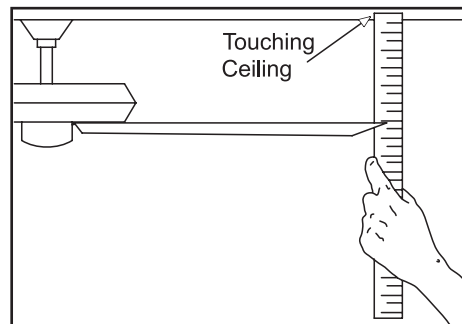

Figure 13
2. Most fan wobble problems are caused when blade levels are unequal. Check this level by selecting a point on the ceiling above the tip of one of the blades. Measure from a point on the center of each blade to the point on the ceiling. Measure this distance as shown in Figure 13. Rotate the fan until the next blade is positioned for measurement. Repeat for each blade. Measurement deviations should be within 1/8". Run the fan for 10 minutes.